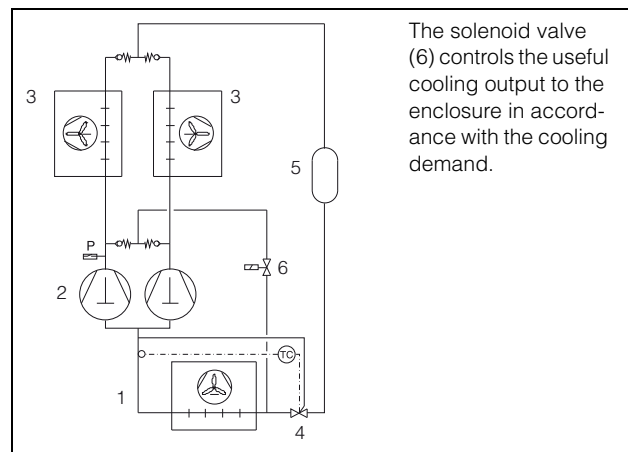

Fig. 2: Cooling circuit
The cooling unit (compression refrigeration system) comprises four main components (see fig. 2): the evaporator (1), the refrigerant compressor (2), the condenser (3), and the control or expansion valve (4), which are connected by suitable pipework. This circuit is filled with a readily boiling substance, the refrigerant. The refrigerant R134a ( $\text{CH}_2\text{FCF}_3$ ) is chlorine-free. Its Ozone Depletion Potential (ODP) is 0, making it very eco-friendly. A filter dryer (5) which is integrated into the hermetically sealed cooling circuit provides effective protection against moisture, acid, dirt particles, and foreign bodies within the cooling circuit.